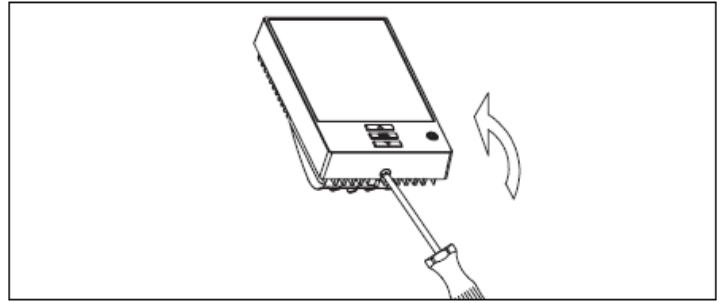

Fig. 2
1. Connect power cable to terminals 2 and 3 on the back of the thermostat (fig. 2).
1. Connect heating cable to terminals 1 and 4 on the back of the thermostat (fig. 2).
Do not loosen the terminal screws further than the mechanical stop. Otherwise this will damage the terminal (fig. 2).